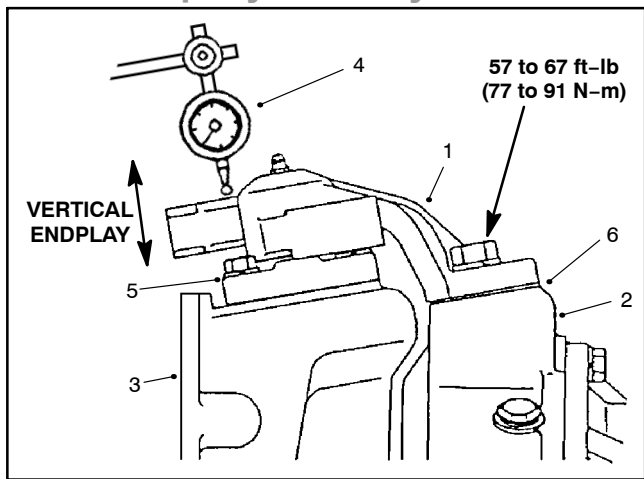

Figure 20
C. Use dial indicator to measure vertical endplay of axle case (Fig. 20).